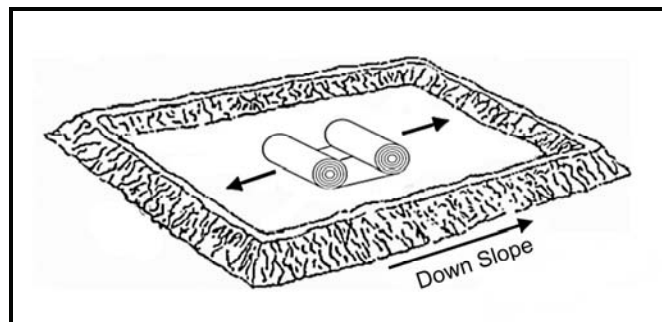

Figure 18. Unrolling the Tank.
4. Unwrap the tank from its packaging material, then unroll one-half of the tank (Figure 18) along the length of the installation site, then unroll the other half of the tank (Figure 18) in the opposite direction along the length of the installation site.